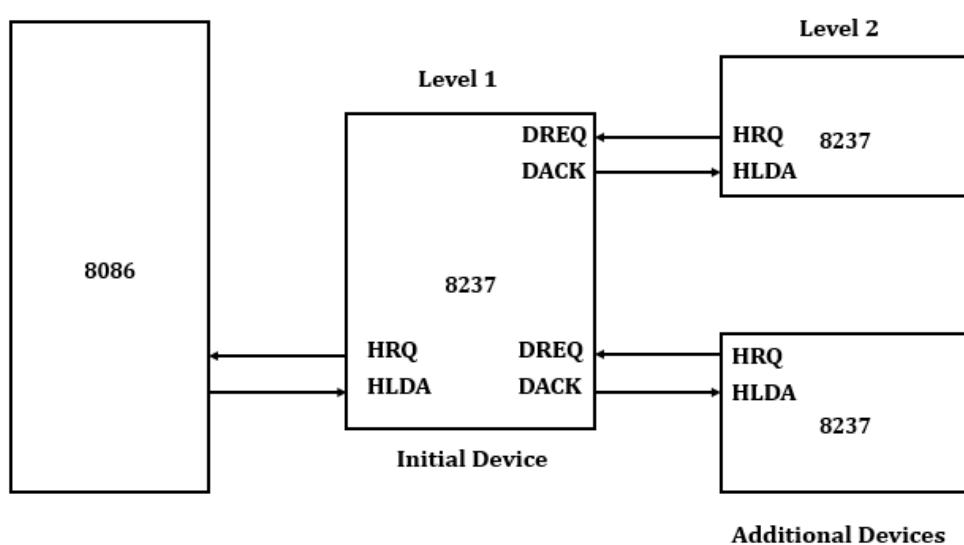

Figure 3.19: Cascaded 8237's.
1. Interfacing of the latch 8282 with the 8086 processor is shown in figure 3.19.
4. On receiving the HIGH (1) ALE signal from the processor, the latches will be enabled and the  $A_0$  to  $A_{19}$  address is latched.
- Figure 3.19 shows the cascaded 8237's.